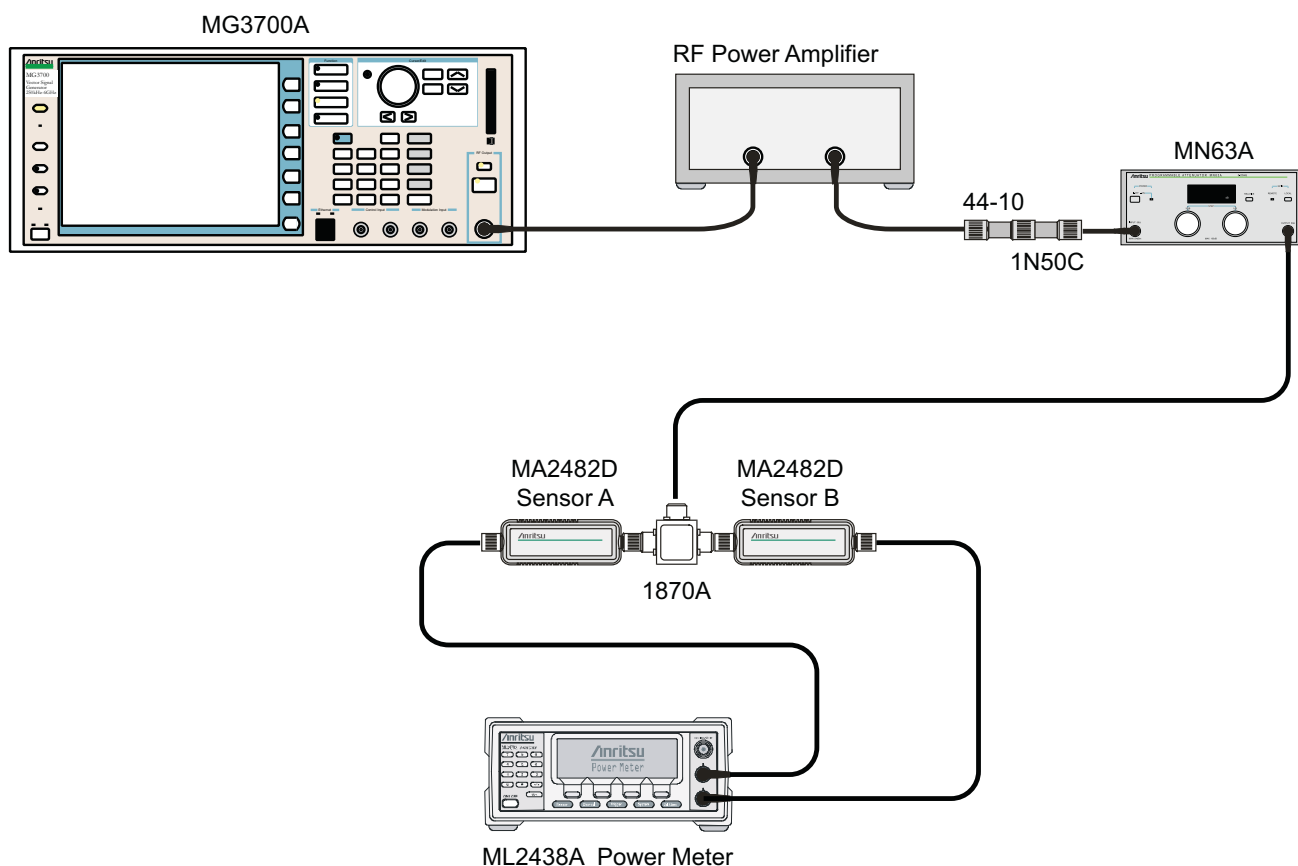

Figure 5-12. DVB-T/H Option 64, 1 dB Compression Level Verification – Two Sensors
4. Connect the MG3700A Signal Generator, Power Amplifier with N(f) to BNC(m) Adapters, RF Limiter, MN63A Programmable Attenuator, Power Divider, Power Meter, and Power Sensors as shown in Figure 5-12, “DVB-T/H Option 64, 1 dB Compression Level Verification – Two Sensors”.
37. Remove the MT8222A from the test setup and reinstall Sensor A to the open splitter output as shown in Figure 5-12, “DVB-T/H Option 64, 1 dB Compression Level Verification – Two Sensors” on page 5-56
46. Remove the MT8222A from the test setup and reinstall Sensor A to the open splitter output as shown in Figure 5-12, “DVB-T/H Option 64, 1 dB Compression Level Verification – Two Sensors” on page 5-56.